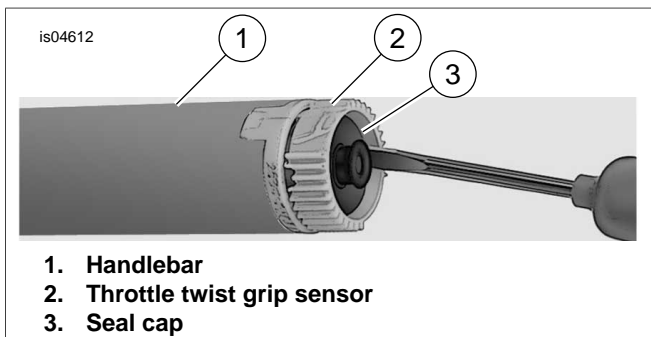

Figure 1. Remove Seal Cap
- See Figure 1. Insert a small screwdriver or other flat-blade tool into the flat area on one side of the seal cap.